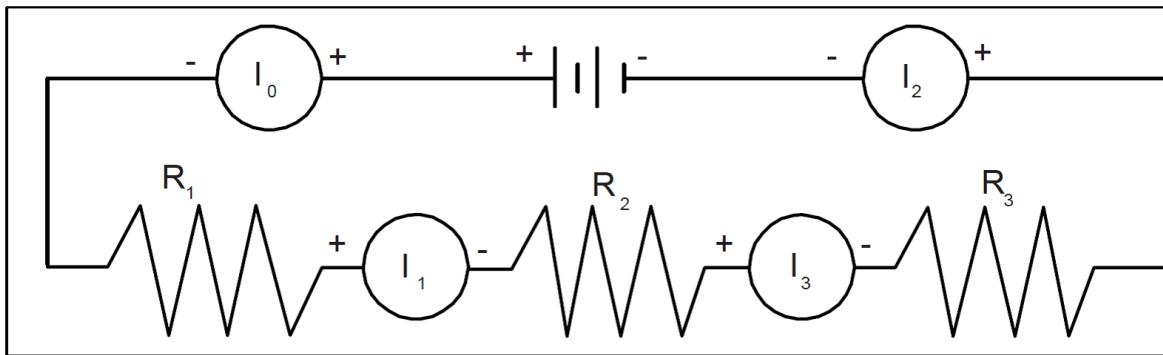

Figure 13: A diagram of the series circuit
1. Connect the same three resistors used in section 4.1 and 4.2 into the series circuit shown below (see figure 13), using the springs to hold the leads of the resistors together without bending them. Connect two wires to the D cell, and carefully note which leads is negative and which is positive.
3. Now move the multimeter to the positions indicated in figure 13, each time interrupting the circuit, and carefully measuring the current in each one. Record your results in figure 14.